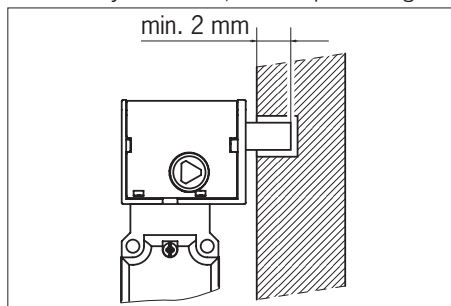

Fig. 1: Locked safety switch TK
The guard locking pin is extended on the activation of the guard locking. Guard locking is achieved by the insertion of the guard locking pin into a recess on the safety door frame, for example (see Fig. 1).
- ▶ The guard locking pin must be inserted by at least 2 mm (see Fig. 1).